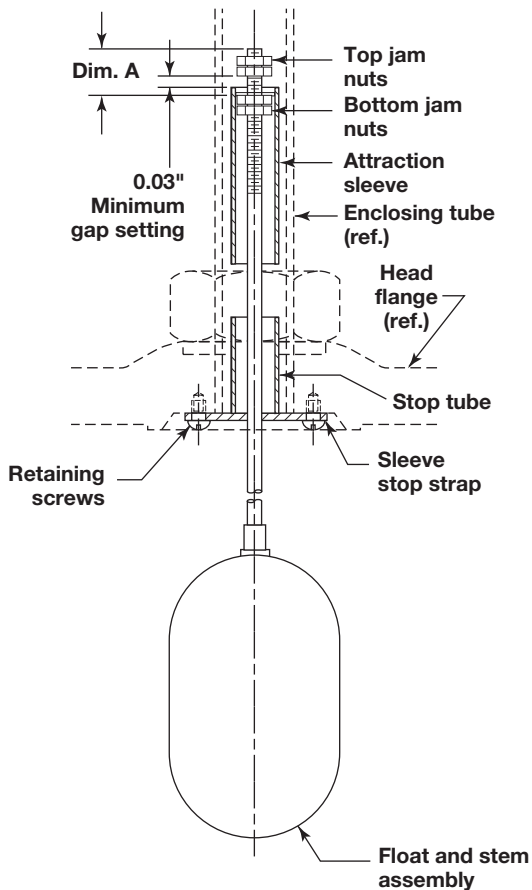

Figure 20
- 8.1 Remove the stem assembly including attraction sleeve from the head assembly by removing the two screws holding the stop strap to the bottom of the flange. See **Figure 20** for assembly schematic.